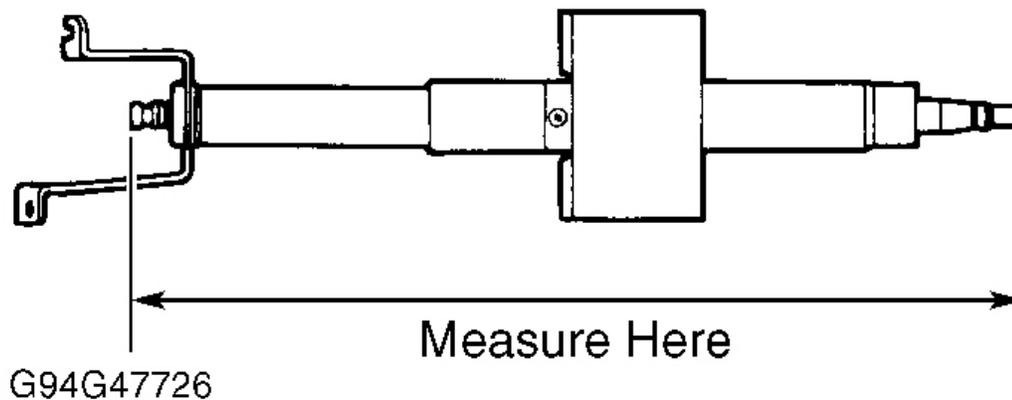

Fig. 3: Measuring Steering Shaft Dimensions
Inspect all components for damage and wear. Check steering shaft for bends, damage or sheared plastic pins. Check bearings for excessive play. Replace components as necessary. Measure length of steering shaft. See **STEERING SHAFT DIMENSIONS** table. See **Fig. 3**.
(1) For measuring points, see **Fig. 3**.